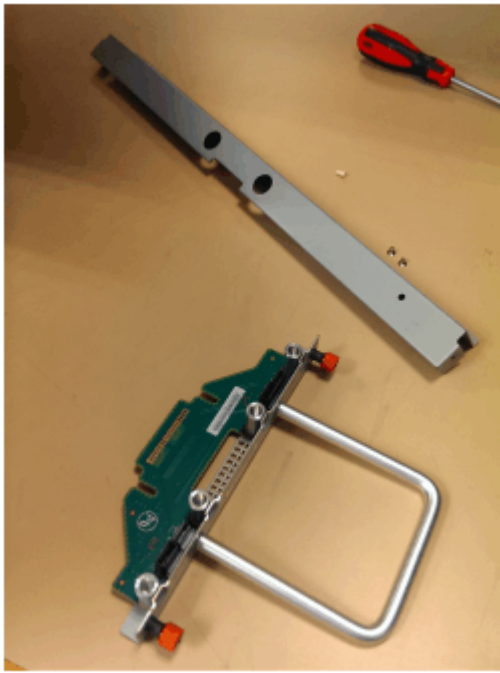

Figure 141. FIB parts removed from the chassis
4. Place the FIB (shown in Figure 141 on page 191) in a safe location.
6. Assemble the new FIB, cover, and the cover screws in a safe location as shown in Figure 141 on page 191.